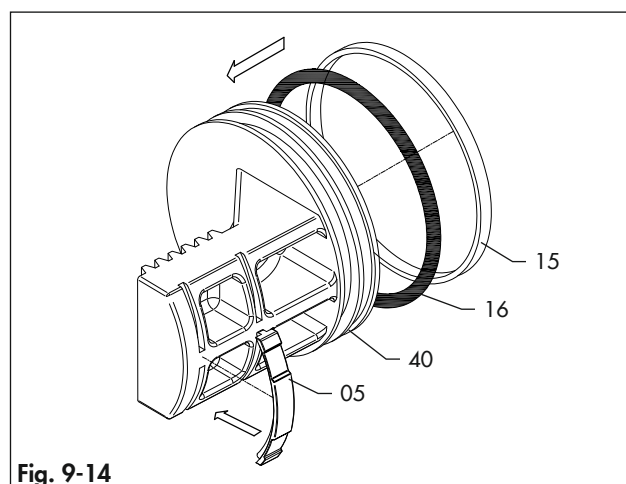
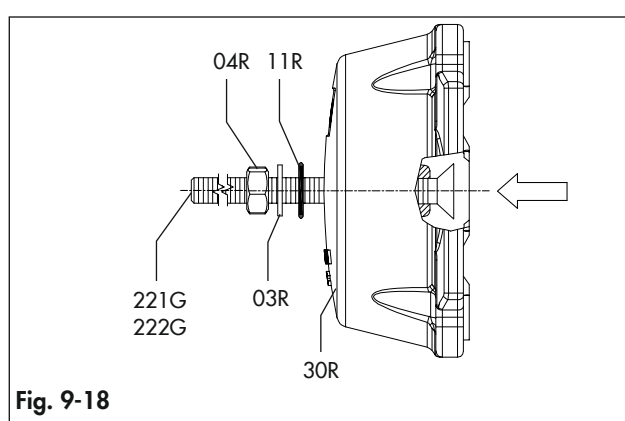

Fig. 9-14
Fig. 9-18
Refer to Fig. 9-1, Fig. 9-2 and from Fig. 9-14 to Fig. 9-18.
- fasten the stop screws (221G/222G) into the end caps (30) aligning the head of the screw to the end cap surface as shown in Fig. 9-18.